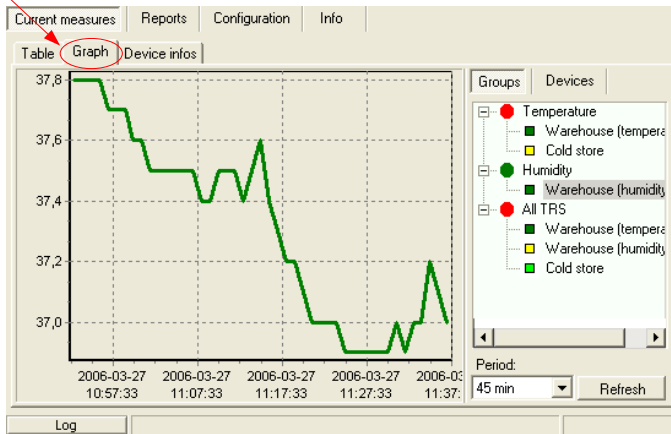

Figure 4.7. **Current measures - Graph tab**
Graph tab (Figure 4.7) is used for viewing the measurement results (temperature, humidity) in the form of a graph. Measurements from a maximum of 12 units (transducers, sensors) may be viewed simultaneously.
- **graphs area** - plots measured values (e.g. temperature, humidity) in function of time. Each sensor is distinguished by a different colour (Figure 4.7);